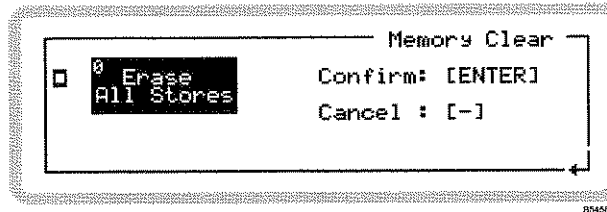

Fig. 3-124 Confirming memory clear
Touch the  soft box or key 0 to erase all the memory stores (Fig. 3-124).